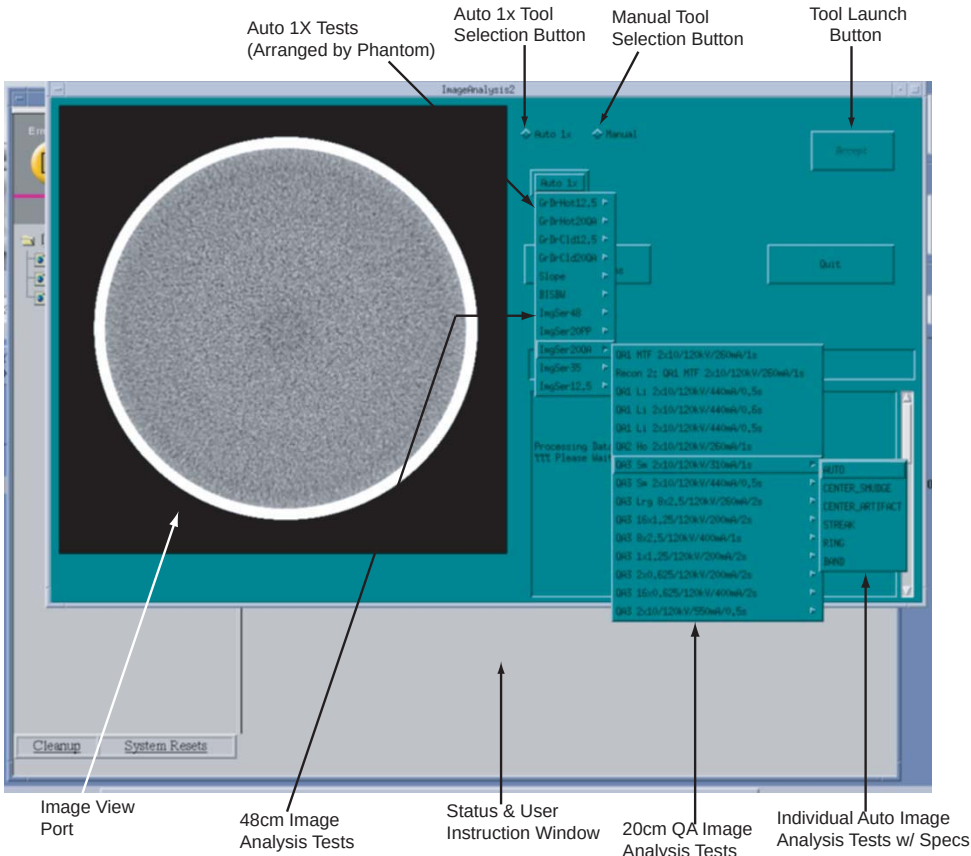

Figure 6-7 Image Analysis Tool User Interface - Auto 1x Test Pull Down Menu
- b.) On the Image Analysis Tool window, click on the AUTO 1X diamond shaped button. (See Figure 6-7, on page 234.)